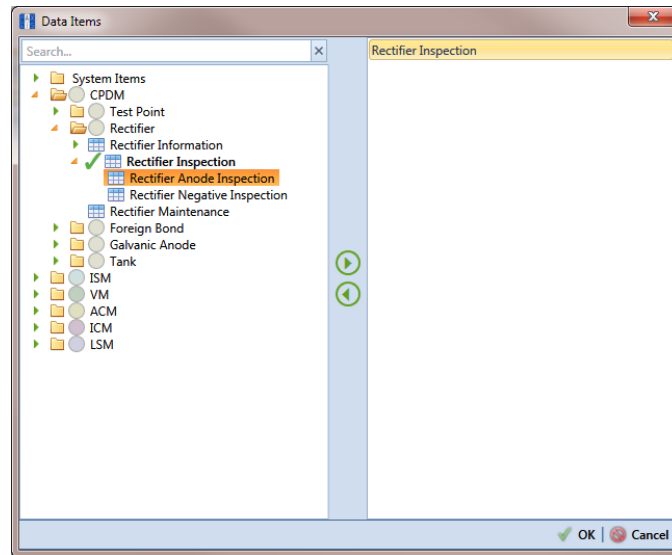

Figure 10-47. Data Items
- 12** Select data item(s) you want to import and export. Click  **Add Data Item** to open the *Data Items* window and then complete the following steps (Figure 10-47):